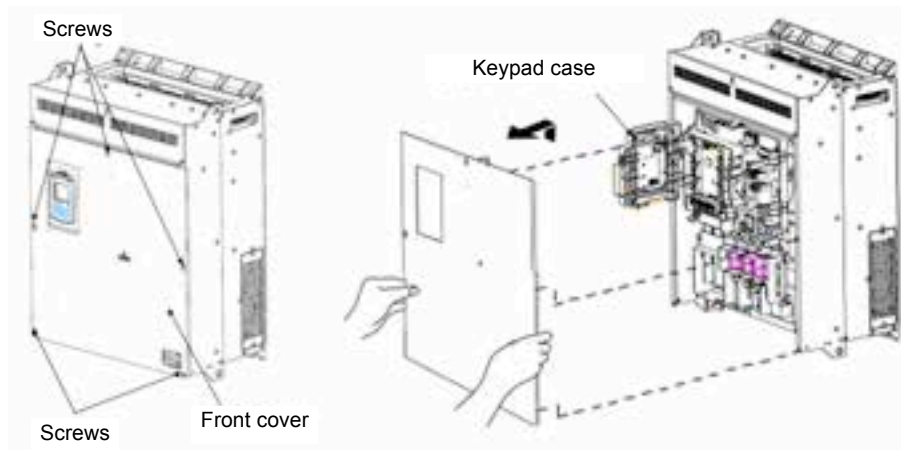

Figure 2.3 Removing the Front Cover and the Wiring Plate (FRN110AQ1S-4□)
(2) 200V class series 55 to 90 kW and 400V class series 110 to 710 kW
- After making the necessary wiring connections, align the top of the front cover with the holes on the unit and reattach the cover by reversing the process illustrated in Figure 2.3.